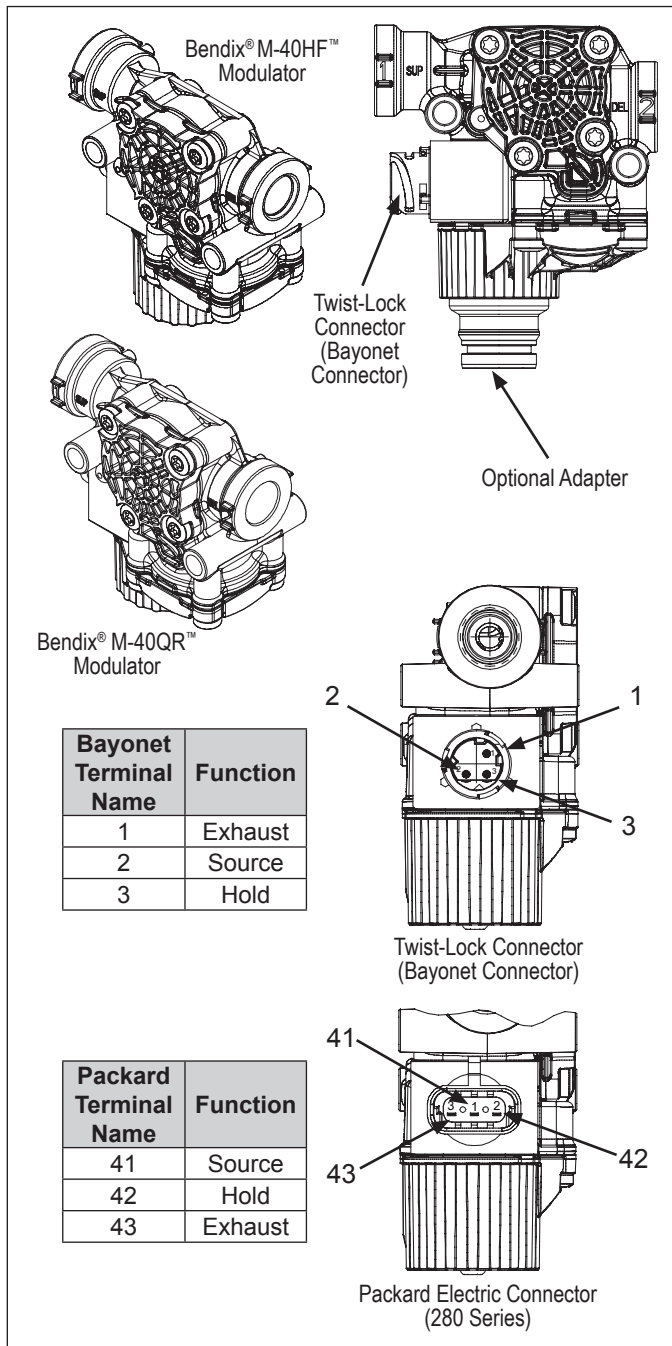

FIGURE 7 - EXTERIOR VIEWS AND ELECTRICAL CONNECTIONS
2. Proceed to the modulator in question and inspect its wiring connector. Disconnect the connector and test the resistance between the pins **on the modulator**. Refer to Figure 7.